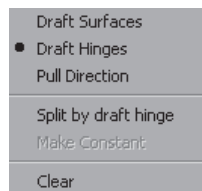

Figure 8-72 Shortcut menu
3. Hold down the right mouse button to invoke the shortcut menu shown in Figure 8-72.